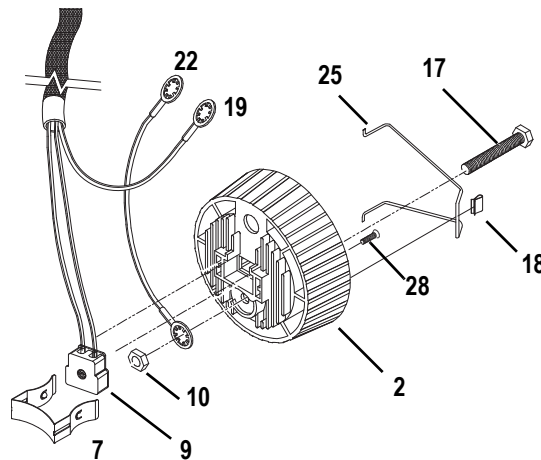

Figure 4
- Step 3: Insert the bolt (17) through the light baffle socket casting (2). See Figure 4.
- Step 4: Install the green and yellow ground wire assemblies (19 and 22) on the bolt (17) with the prongs on the crimped connectors toward the casting. Run both wires through the indent in the lip around the bolt hole. Secure with nut (10) and tighten securely (6.7 Newton meters).
- Step 5: Place the socket assembly (9) into the light baffle socket casting (2). Be sure it is well seated.
Step 6: Install the lamp retainer spring (7). The lamp retainer spring secures the socket. Insert the spring one end at a time, making sure the rectangular slot in each side of the spring seats on the corresponding tab in the casting. See Figure 4.